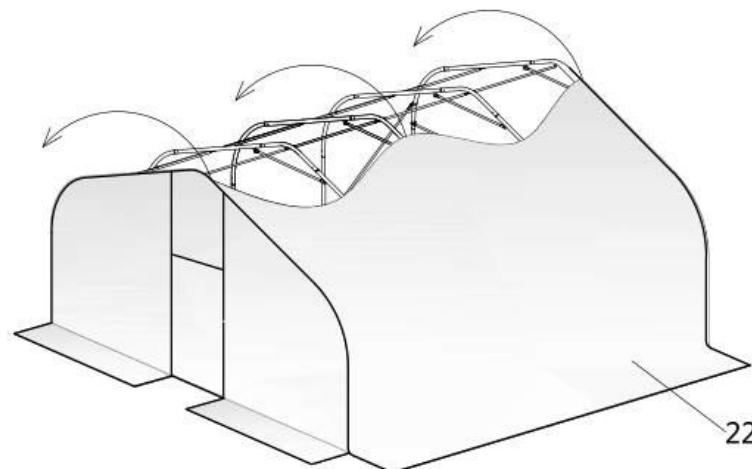

Figure 15
- Use 3 to 5 ropes (#24) to pull the cover over the top of the structure, 2 or 3 people standing inside on ladders to push upwards will help to move the cover smooth without any damage (refer to figure 15).